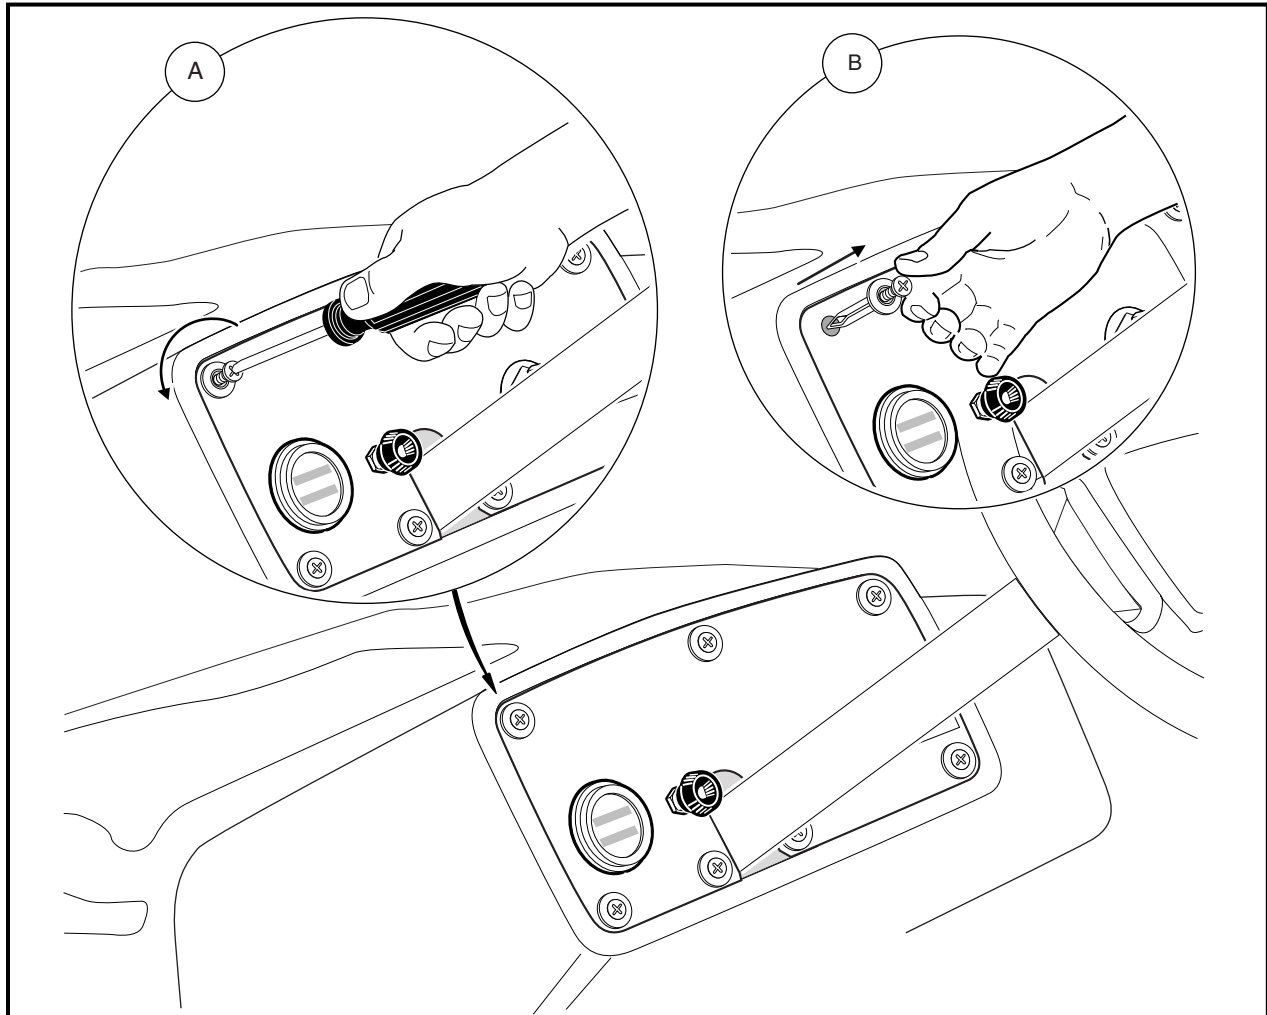

Figure 12-20 Center Dash Panel Removal
- 3.1. Loosen seven Tuflok screws, but do not remove screws completely, as shown in Detail A (**Figure 12-20, Page 12-16**).
2. Install the dash panel in reverse order of removal (**Figure 12-20, Page 12-16**).